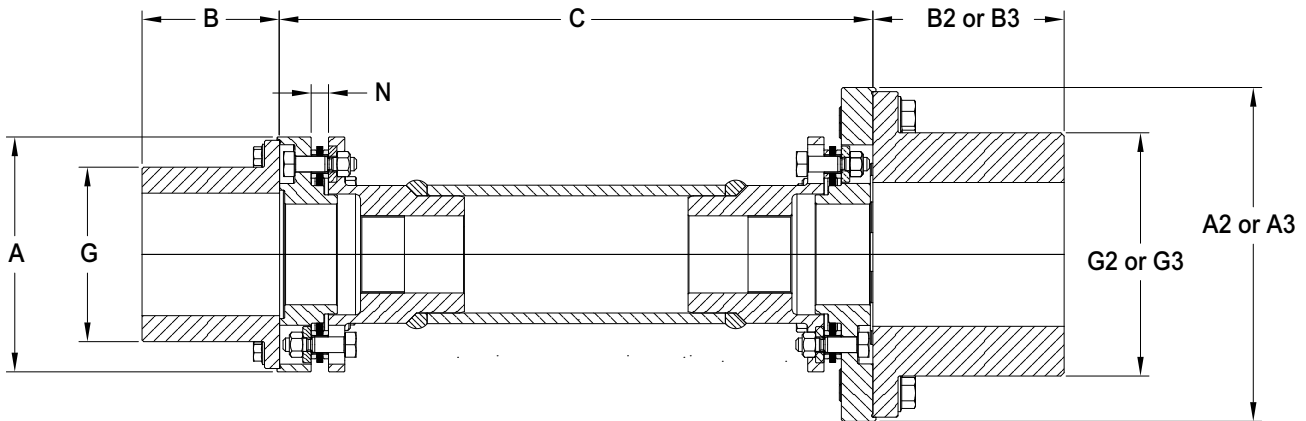

Figure 8
ATTENTION! As a guide, the maximum and minimum values for dimension “N” shown in Figure 8 are given in Table 3. These dimensions are suggested for initial installation. Additional capacity is available to compensate for thermal and structural equipment movement. Maximum axial capacity values for these couplings are also given in Table 3.
- 8.1. Verify that the hubs have been mounted to provide the correct “C” dimension shown in Figure 8 and defined in Table 1.